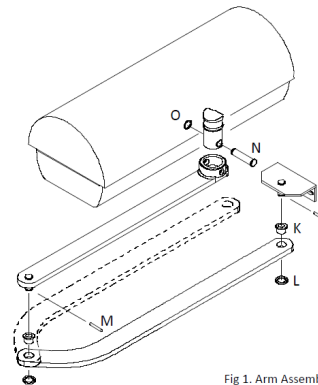

Fig 1. Arm Assembly
6. Assemble the articulated lever arm and door coupling, as shown in fig. 1. Connect straight arm and door coupling to curved arm using plastic sleeve (K) and washer (L). Secure together with rolled pin (M). The dashed arm indicates the setup for the right motor (viewed from inside).
7. Slide the assembled arm onto the transmission shaft at the motor's base and fasten it using the long pin (N) and C-ring (O).